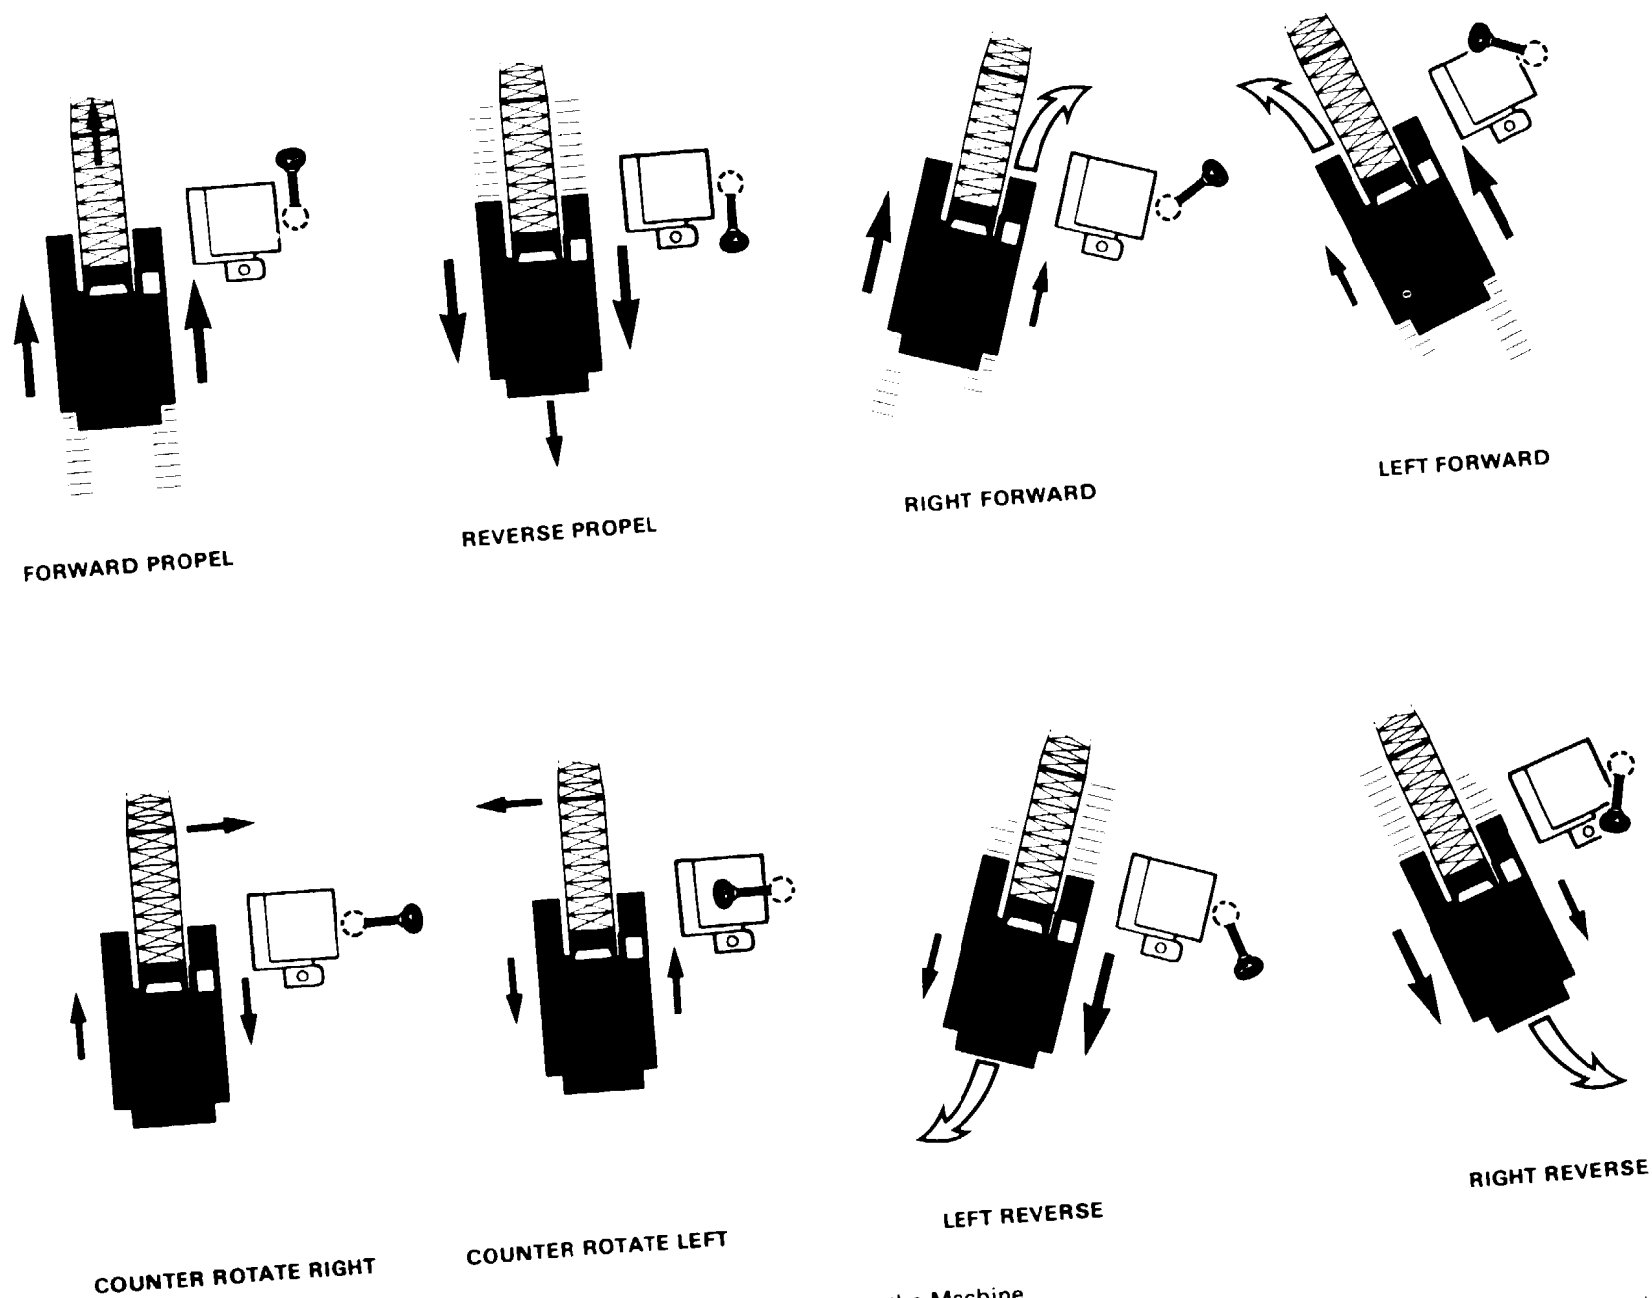

Figure 2-8. Propelling the Machine
Propel direction and steering are controlled by the propel control lever (see Figure 2-8). Propel speed and torque are affected by the engine rpm and by the proportional movement of the propel control lever. Propel tire machine as follows.
3. Move the propel controller in the desired direction of travel. Propel direction as related to control lever movement is illustrated in Figure 2-8.